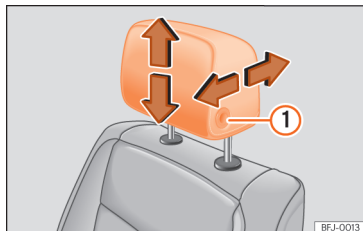

Fig. 94 Front seat: adjusting the head restraint.
- Move the headrest up or down in the direction of the corresponding arrow. Regarding the rear headrest, to both raise and lower, press the button »» Fig. 94 ①; for the rear headrests it is
- Move the head restraint forward or back in the direction of the corresponding arrow while pressing the button »» Fig. 94 ①.